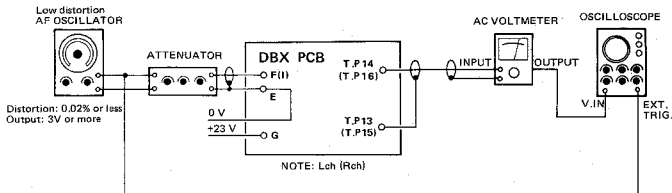

Fig. 5-17 Connections for DECODER adjustment (1)
2. Make the Fig. 5-17 connections, then feed 100 Hz, -8 dB (308 mV) to the F/I (INPUT) terminal.